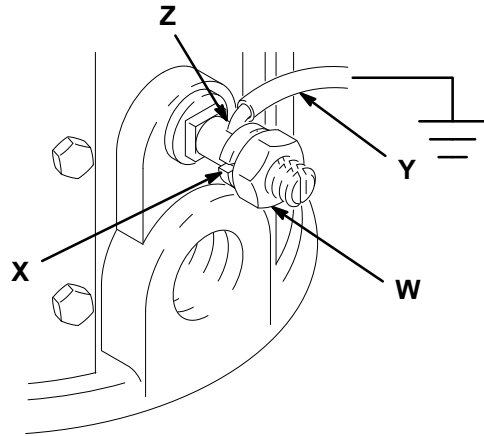

Fig. 2
1. *Pump:* use a ground wire and clamp as shown in Fig. 2.